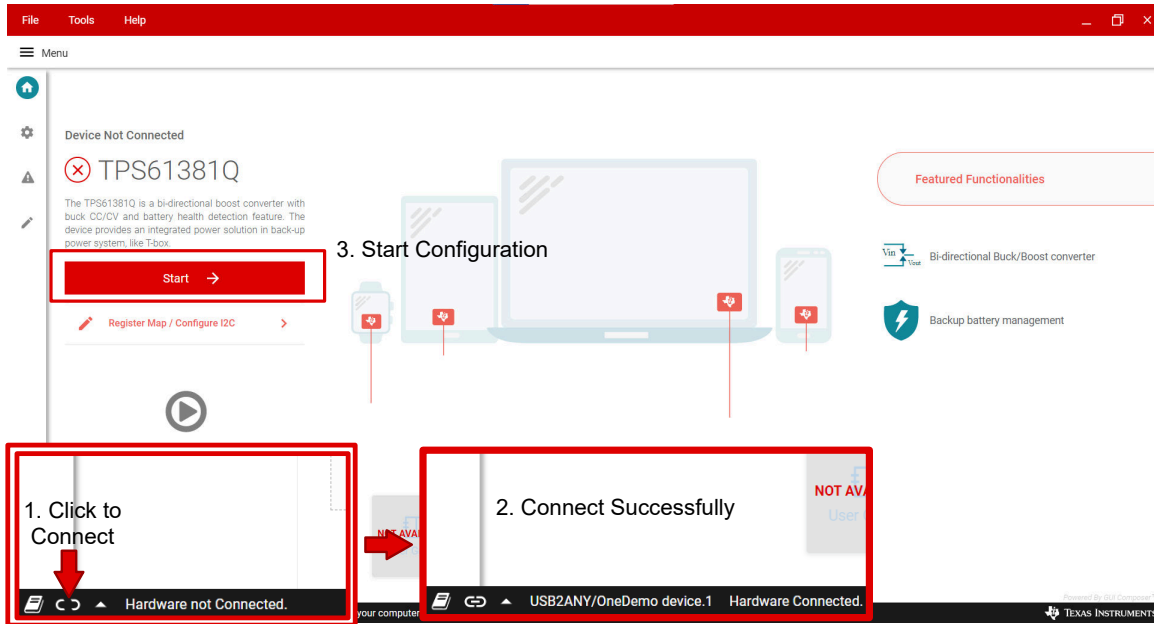

Figure 3-2. GUI Connect and Start
3. Click the connect button on the bottom bar, as shown in Figure 3-2. After the GUI and device are connected, the GUI reads all registers and shows a notification.